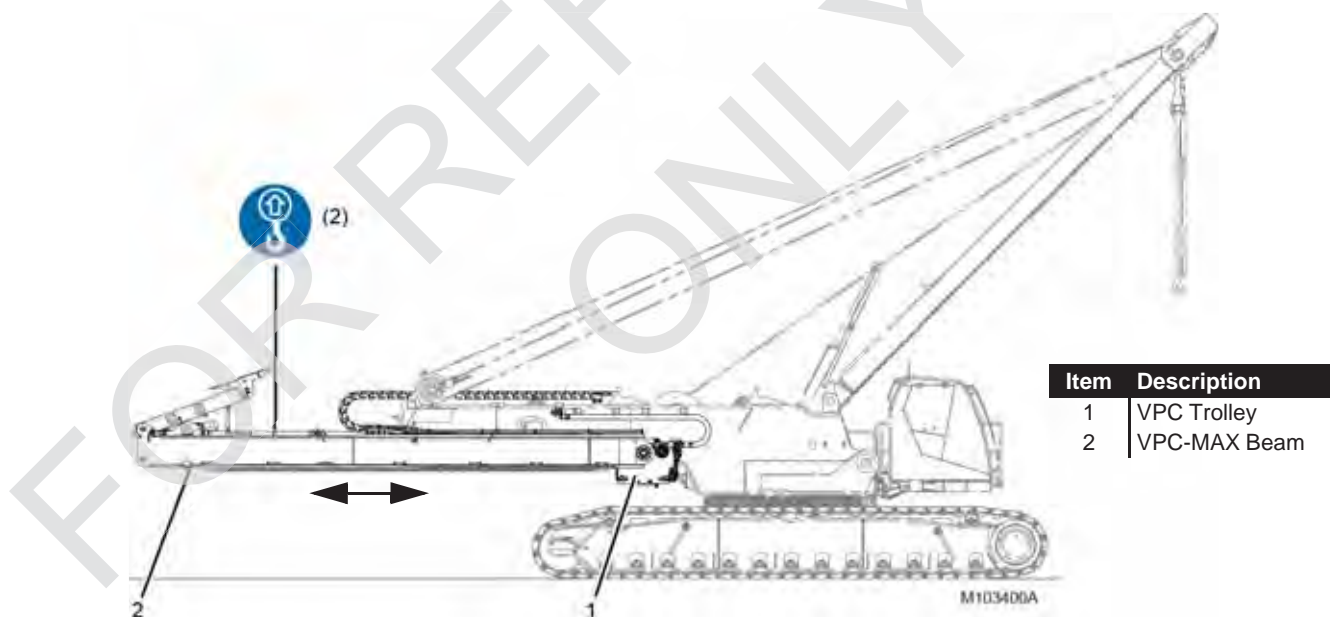

FIGURE 6-15
- a. Perform this procedure immediately after the VPC-MAX beam is attached to the VPC trolley and while the assist crane is still supporting the rear end of the beam as shown in Figure 6-15.